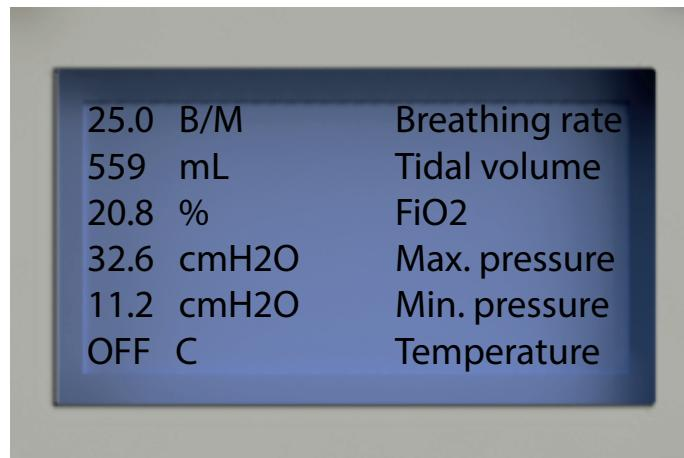

Figure 15: An example of the main screen when the temperature sensor is disabled.
The temperature sensor is optional and can be plugged in or out at the temperature plug. However the sensor must also be enabled or disabled in the user interface. The main menu shows an temperature if the sensor is enabled or shows OFF if the sensor is disabled. Figure 15 shows an example of the main screen if the sensor is disabled.
5. Check the main screen to see if it looks like Figure 15